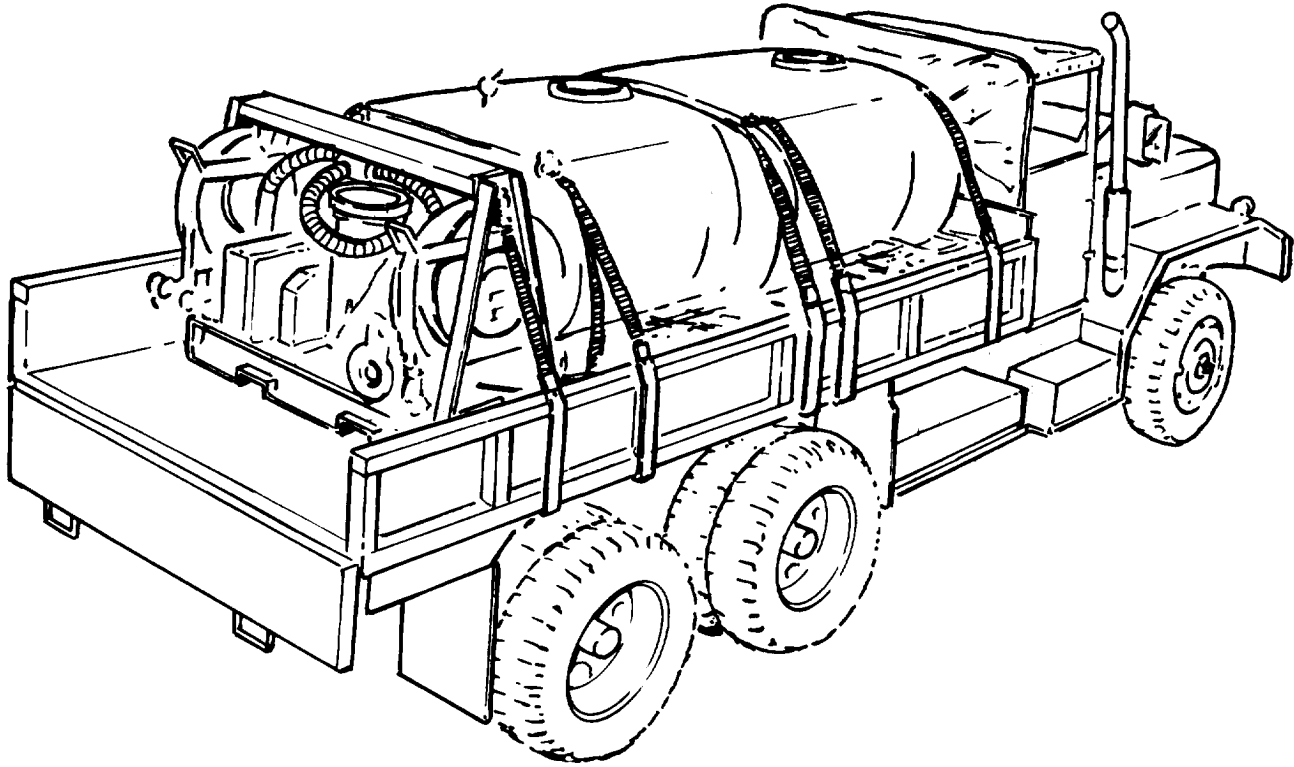

Figure 1-1. Tank and Pump Unit, Truck Mounted.
- b. Model Number and Equipment Name. Tank and Pump Unit, Liquid Dispensing; for Truck Mounting, MIL Design Tank and Pump Units, Gasoline Engine Driven Model 13217E7100, NSN 4930-00-426-9960; Electric Motor Driven Model 13217E7130, NSN 4930-01-130-7281 (figure 1-1).